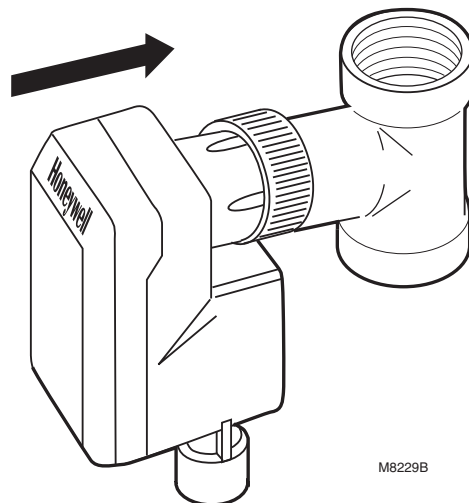

Fig. 6. Mounting actuator to valve (M6410 shown).
3. Screw the actuator connector onto the body of the valve (Fig. 6).